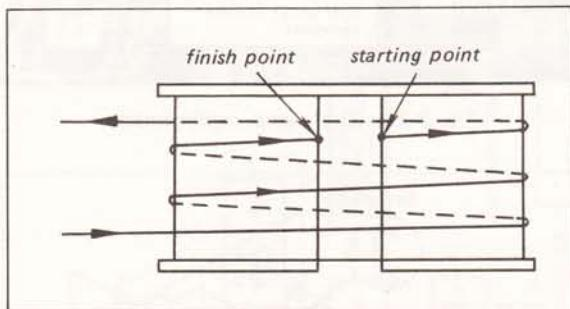

Fig. 2-6. Wrapping the dial cord
**Note:** Refer to the Fig. 2-6, for wrapping the cord around the drum.